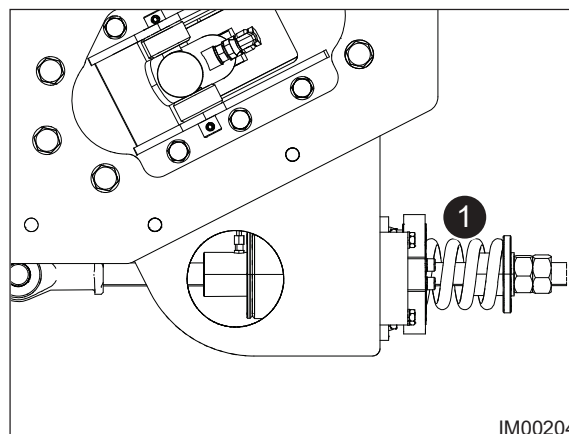

Fig: 11.36 - Tension Spring
3. Slacken off the Locking and Compression Nut to allow the Spring to extend (Item 1, Fig: 11.36). This will open the crushing chamber and release any stored tension on the uncrushed object.